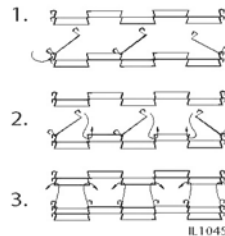

Fig 1. Master Links
3. Heavily soiled conveyor surfaces, models locate all 3 of the master links on the conveyor belt. Followthe step 1 in Fig 1, to remove all of the master links. models have no master links, to remove, unhook each end of one link and bring the two ends together, and unthread. Once detached, re-hook into itself so not to get damaged.
9. Reinstall the previously removed master links as shown in step 2 & 3 in Fig.1. 210 models, unhook the last link of the conveyor, farthest away from you, and rethread through the other end, and reconnect back onto itself.